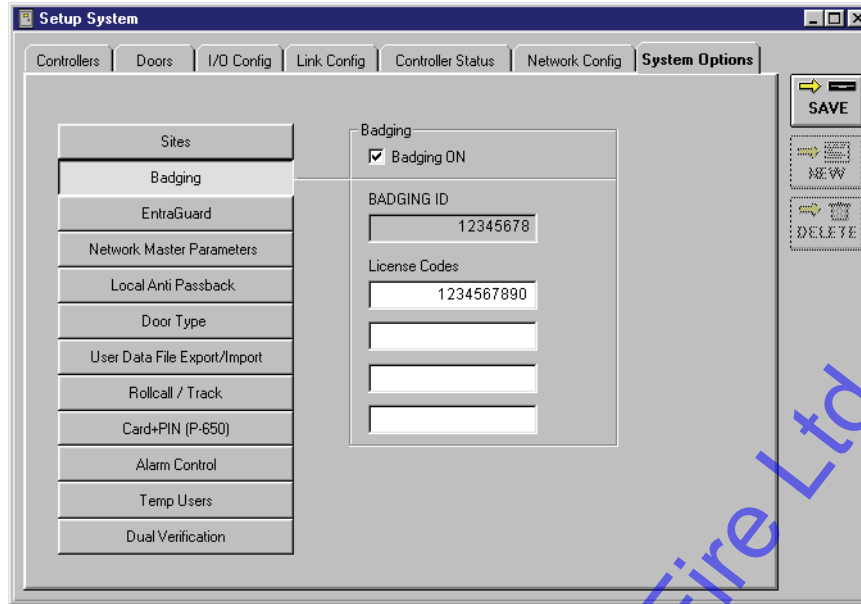

Figure 9-18: System Options Tab – Badging Enabled
- The Badging ID number should now be visible inside the Badging ID box (see Figure 9-18). Have this number ready when you contact Keri Systems Customer Support to receive your License Code.
- Enter the License Code received from Keri Systems in the “License Code” field (see Figure 9-18 on page 17 of this section).